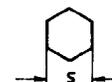

Fig. 31: Square Drives 1/4" or 3/8" square drive
- Metric hexagonal bit socket (see Fig. 31: Square Drives) for torque wrench with suitable across flats dim. (s); see Table 3.